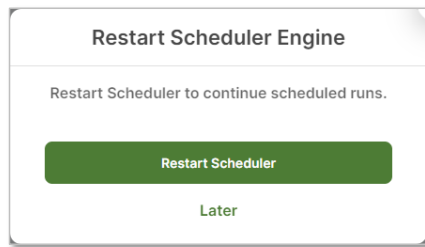

Figure 41: Restarting Scheduler after Run Port (Manual Run) Stopped
6. Once the manual run has gathered the amount of data desired, click the **Stop** button at the bottom-right of the Schedule screen to end the Manual port run. A pop-up (Figure 41) will appear with a choice to Restart Scheduler Engine or Skip. Clicking **Restart Scheduler** will start the next scheduled recipe at its designated Date and Time.